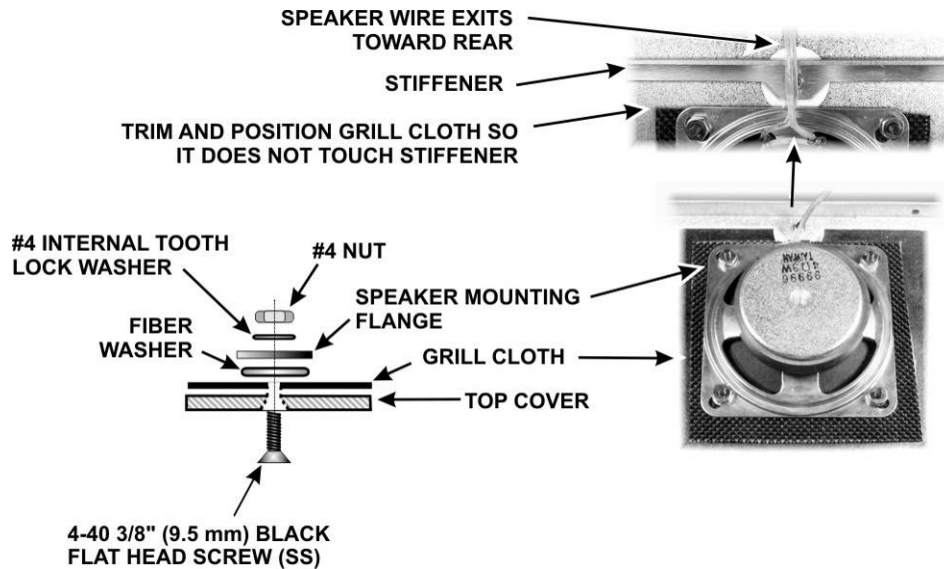
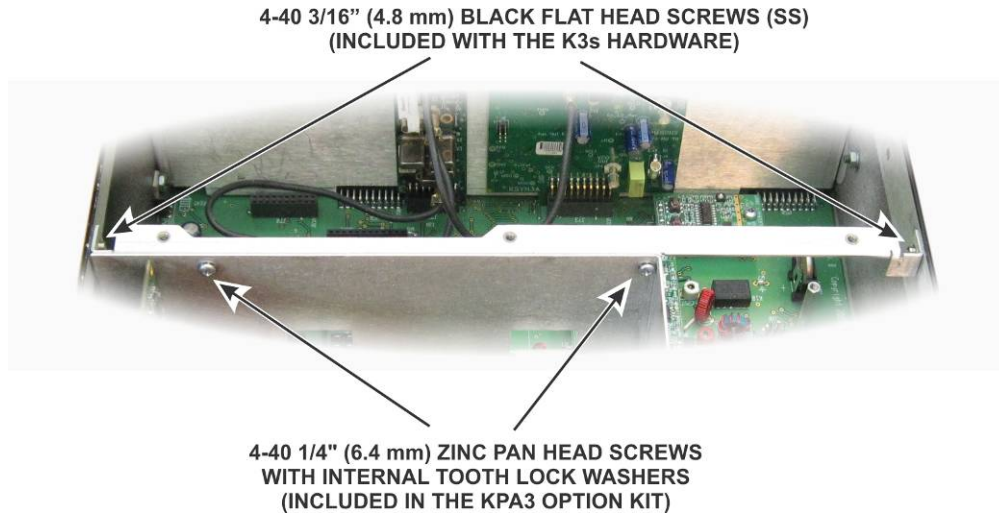

Figure 87. Mounting Loudspeaker.
Figure 92. Installing the Chassis Stiffener Bar.
- Trim the grill cloth to cover the speaker grill openings and overlap the four holes for the loudspeaker mounting screws. Mark and cut four holes in the grill cloth for screws to pass through the cloth. The grill cloth is shown as it must fit after the speaker is mounted in Figure 87. Normally, the stiffener will remain attached to the K3 when you remove the top cover. If you install the KPA3A 100-watt amplifier, the stiffener will be attached to the KPA3A shield and cannot be removed with the cover (see Figure 92 on page 64). The grill cloth must be trimmed as shown so it cannot become trapped between the chassis stiffener and the top cover when the cover is removed and replaced.
- Mount the speaker using the hardware shown in Figure 87. A suggested procedure for doing this is as follows:
Remove the stiffener bar from the top cover and install it on the chassis as shown in Figure 92. The hardware required to attach it to the shield are in the KPA3A Option kit. The black flat head screws used to attach it to the side panels are part of the K3S kit hardware.